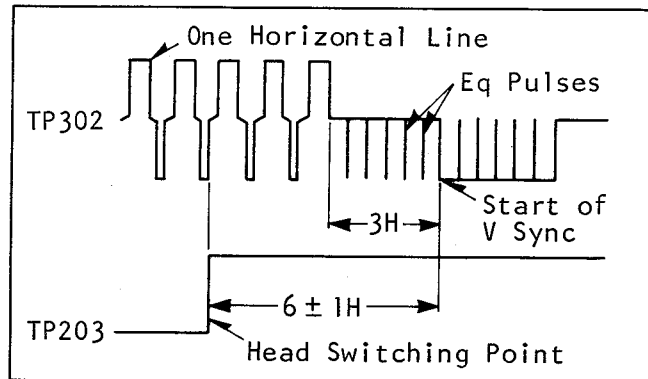

Fig.E24.
5. While recording, adjust the REC SHIFTER (R224) so the recording head switching point is  $6 \pm 1H$  before the start of vertical sync as shown in Fig.E24.